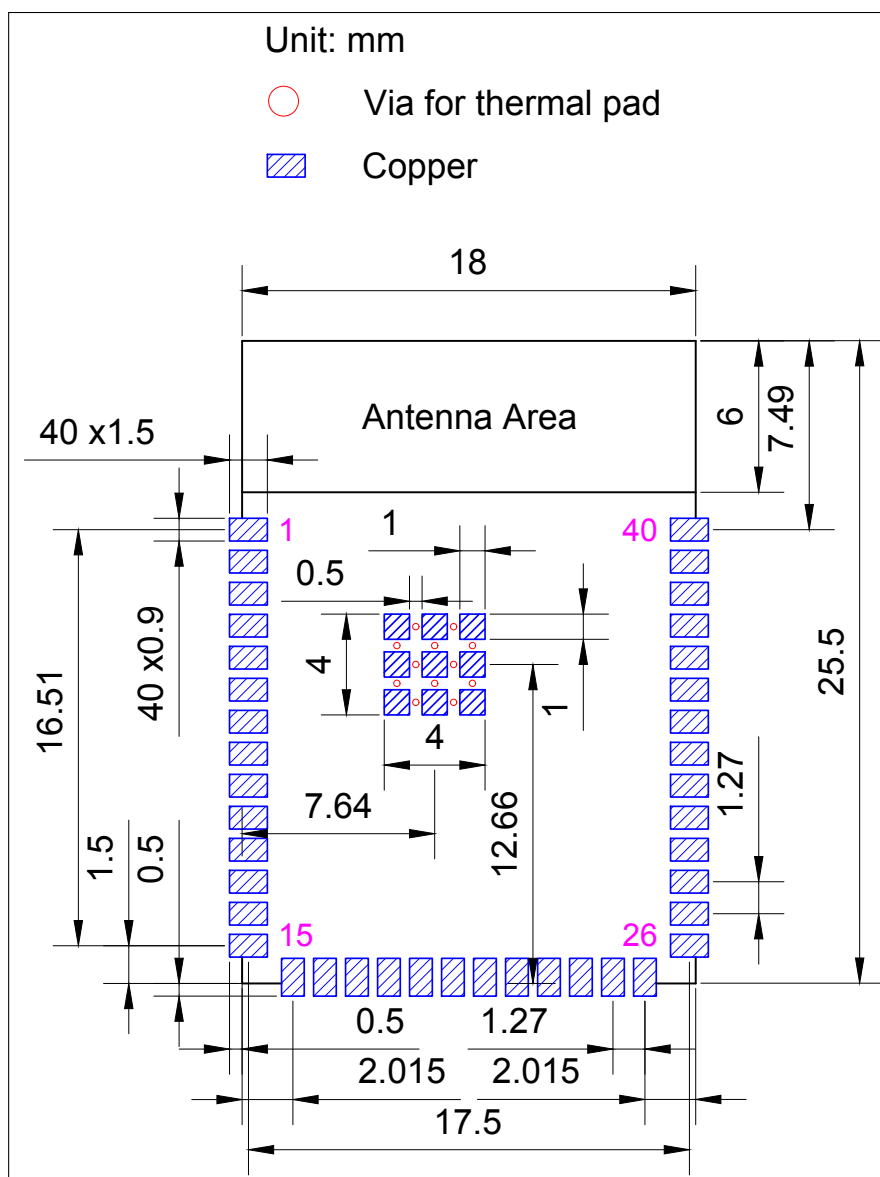

Figure 11-1. Recommended PCB Land Pattern
- Figure for recommended PCB land pattern with all the dimensions needed for PCB design. See Figure 11-1 *Recommended PCB Land Pattern*.
- Source file of recommended PCB land pattern to measure dimensions not covered in Figure 11-1. You can view the source files for ESP32-S3-WROOM-2 with Autodesk Viewer.